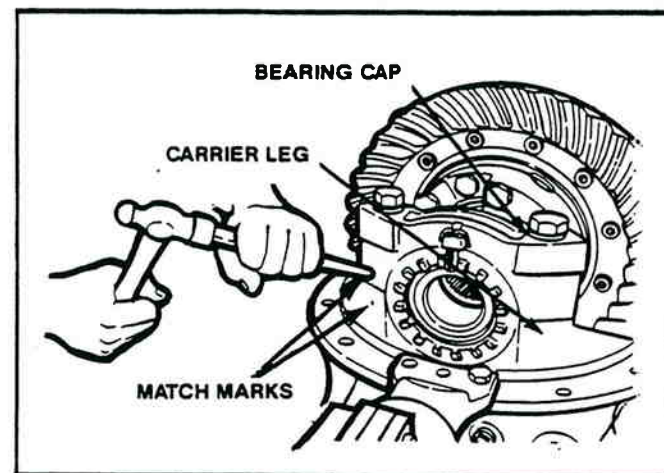

Figure 2-12. Making Match Marks.
4. Mark one carrier leg and bearing cap for the purpose of correctly matching the parts when you assemble the carrier. A center punch and hammer can be used to mark the parts (Figure 2-12).